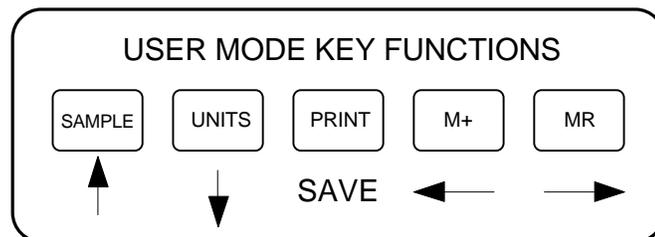
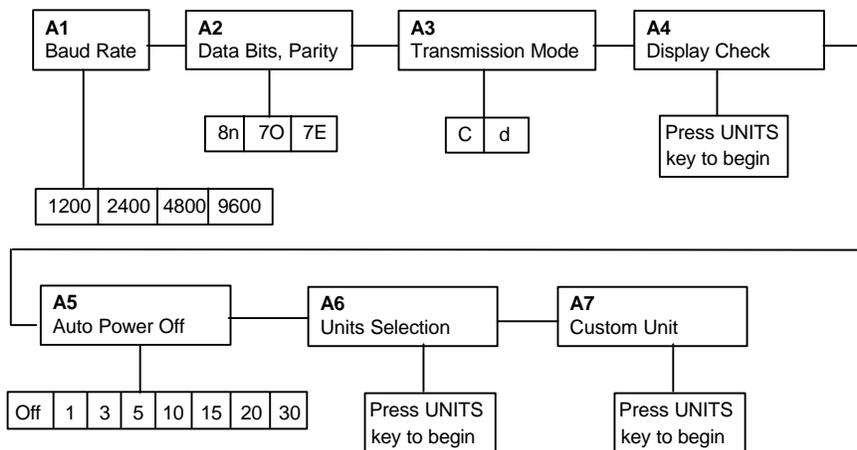

Figure 5-1: User Menu Key Assignments
Figure 5-2: User Menu Chart
Use the directional keys shown in Figure 5-1 to move around in the User Menu Chart shown in Figure 5-2 on the following page.
3. Use the left or right directional keys (shown in Figure 5-1 above) to move the decimal point position to the correct position. Pressing the M+ key or the MR key will change the position of the decimal point.
6. Use the four directional keys (shown in Figure 5-1 above) to adjust the displayed value to the actual custom unit multiplier value. Increase the flashing digit by pressing the SAMPLE key. Decrease the flashing digit by pressing the UNITS key. Pressing the M+ key or the MR key will change the position of the flashing digit.